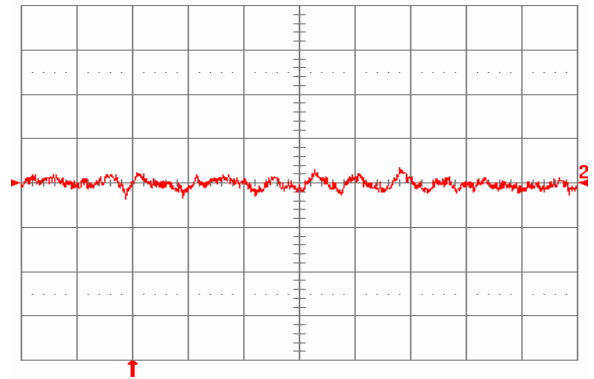

**Fig. 3.3V.14:** Test Setup for measuring input reflected ripple currents,  $i_c$  and  $i_s$ .
**Fig. 3.3V.1:** Available load current vs. ambient air temperature and airflow rates for SQ48T15033 converter with D height pins mounted vertically with  $V_{in} = 48\text{ V}$ , air flowing from pin 3 to pin 1, and maximum FET temperature  $\leq 120\text{ }^\circ\text{C}$ .
**Fig. 3.3V.2:** Available load current vs. ambient air temperature and airflow rates for SQ48T15033 converter with D height pins mounted horizontally with  $V_{in} = 48\text{ V}$ , air flowing from pin 3 to pin 1, and maximum FET temperature  $\leq 120\text{ }^\circ\text{C}$ .
**Fig. 3.3V.3:** Available load current vs. ambient air temperature and airflow rates for SQ48S15033 converter mounted vertically with  $V_{in} = 48\text{ V}$ , air flowing from pin 3 to pin 1, and maximum FET temperature  $\leq 120\text{ }^{\circ}\text{C}$ .
**Fig. 3.3V.4:** Available load current vs. ambient air temperature and airflow rates for SQ48S15033 converter mounted horizontally with  $V_{in} = 48\text{ V}$ , air flowing from pin 3 to pin 1, and maximum FET temperature  $\leq 120\text{ }^{\circ}\text{C}$ .
**Fig. 3.3V.5:** Efficiency vs. load current and input voltage for SQ48T/S15033 converter mounted vertically with air flowing from pin 3 to pin 1 at a rate of 300 LFM (1.5 m/s) and  $T_a = 25\text{ }^{\circ}\text{C}$ .
**Fig. 3.3V.6:** Efficiency vs. load current and ambient temperature for SQ48T/S15033 converter mounted vertically with  $V_{in} = 48\text{ V}$  and air flowing from pin 3 to pin 1 at a rate of 200 LFM (1.0 m/s).
**Fig. 3.3V.7:** Power dissipation vs. load current and input voltage for SQ48T/S15033 converter mounted vertically with air flowing from pin 3 to pin 1 at a rate of 300 LFM (1.5 m/s) and  $T_a = 25\text{ }^\circ\text{C}$ .
**Fig. 3.3V.8:** Power dissipation vs. load current and ambient temperature for SQ48T/S15033 converter mounted vertically with  $V_{in} = 48\text{ V}$  and air flowing from pin 3 to pin 1 at a rate of 200 LFM (1.0 m/s).
**Fig. 3.3V.9:** Turn-on transient at full rated load current (resistive) with no output capacitor at  $V_{in} = 48\text{ V}$ , triggered via ON/OFF pin. Top trace: ON/OFF signal (5 V/div.). Bottom trace: output voltage (1 V/div.). Time scale: 2 ms/div.
**Fig. 3.3V.10:** Turn-on transient at full rated load current (resistive) plus 10,000  $\mu\text{F}$  at  $V_{in} = 48\text{ V}$ , triggered via ON/OFF pin. Top trace: ON/OFF signal (5 V/div.). Bottom trace: output voltage (1 V/div.). Time scale: 2 ms/div.
**Fig. 3.3V.11:** Output voltage response to load current step-change (3.75 A – 7.5 A – 3.75 A) at  $V_{in} = 48$  V. Top trace: output voltage (100 mV/div.). Bottom trace: load current (5 A/div.). Current slew rate: 0.1 A/ $\mu$ s.  $C_o = 1$   $\mu$ F ceramic. Time scale: 0.2 ms/div.
**Fig. 3.3V.12:** Output voltage response to load current step-change (3.75 A – 7.5 A – 3.75 A) at  $V_{in} = 48$  V. Top trace: output voltage (100 mV/div.). Bottom trace: load current (5 A/div.). Current slew rate: 5 A/ $\mu$ s.  $C_o = 450$   $\mu$ F tantalum + 1  $\mu$ F ceramic. Time scale: 0.2 ms/div.
**Fig. 3.3V.13:** Output voltage ripple (20 mV/div.) at full rated load current into a resistive load with  $C_o = 10$   $\mu$ F tantalum + 1  $\mu$ F ceramic and  $V_{in} = 48$  V. Time scale: 1  $\mu$ s/div.
**Fig. 3.3V.15:** Input reflected ripple current,  $i_c$  (100 mA/div.), measured at input terminals at full rated load current and  $V_{in} = 48$  V. Refer to Fig. 3.3V.14 for test setup. Time scale: 1  $\mu$ s/div.
**Fig. 3.3V.16:** Input reflected ripple current,  $i_s$  (10 mA/div.), measured through 10  $\mu$ H at the source at full rated load current and  $V_{in} = 48$  V. Refer to Fig. 3.3V.14 for test setup. Time scale: 1  $\mu$ s/div.
**Fig. 3.3V.17:** Output voltage vs. load current showing current limit point and converter shutdown point. Input voltage has almost no effect on current limit characteristic.
**Fig. 3.3V.18:** Load current (top trace, 20 A/div., 20 ms/div.) into a 10  $m\Omega$  short circuit during restart, at  $V_{in} = 48$  V. Bottom trace (20 A/div., 1 ms/div.) is an expansion of the on-time portion of the top trace.